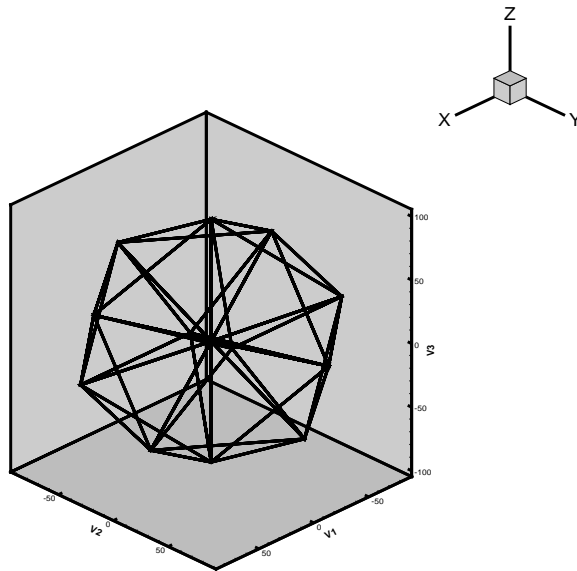

Figure 7-12. Excel spreadsheet **fe1.xls**, plotted in 3D frame mode.
11. The initial plot is in 2D frame mode, which you can convert to 3D mode for a full view of the finite-element volume (Figure 7-12).